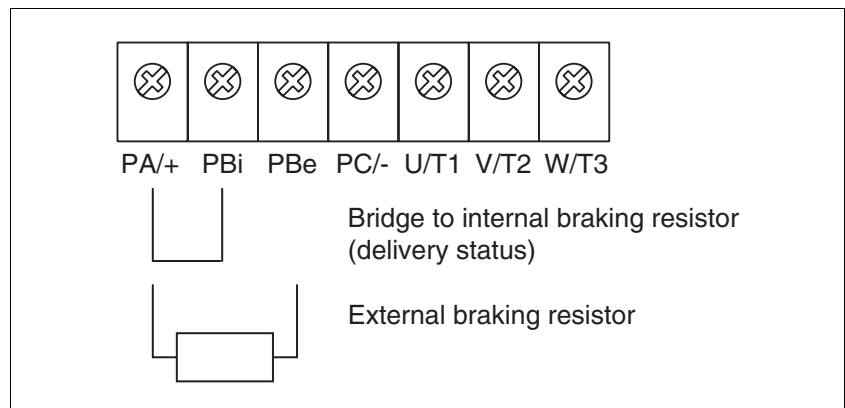

Figure 5.9 Wiring diagram, braking resistor
- Remove the jumper, see Figure 5.9.
- Connect the braking resistor to the device, see Figure 5.9.